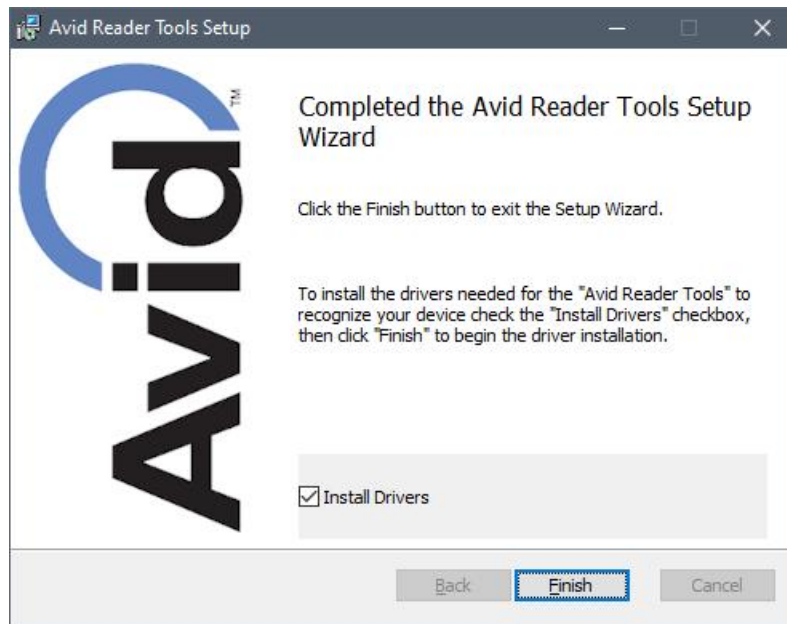

Figure 15: *Installing drivers after software installation.*
5. After the application is installed, the installer will give you the option to install the drivers for connecting with the MiniTracker 4™. If this is the first time the Avid® Reader Tools, keep this option checked as shown in Figure 15 and select "Finish" to complete the installation.